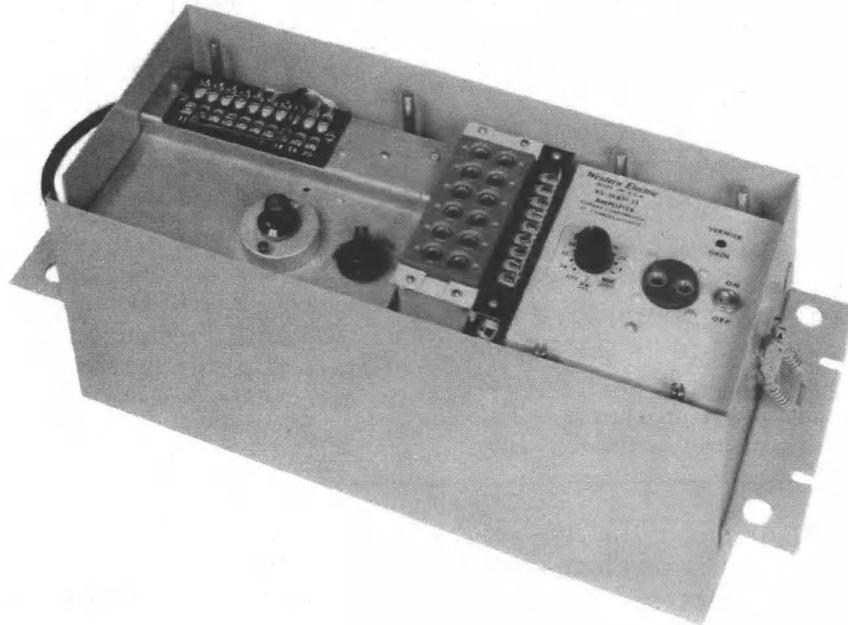

Fig. 2 - KS-16831, L5 Carrying Case with List 1 Amplifier, List 6 Bracket Assembled and List 4 Power Supply Assembled with KS-16816, L2 Equalizer
1.13 The assembly per Fig. 2 consists of a KS-16831, L1 Amplifier, a KS-16831, L4 Power Supply, a KS-16831, L6 Bracket Assem-